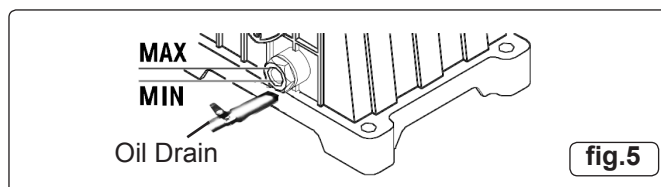

fig.5
- 3.7 Before using the compressor, check the oil level by observing the sight glass as shown in fig.5. If the oil is not up to the max mark it should be topped up with synthetic oil suitable for temperatures ranging from -5°C to 45°C (viscosity 5W50). We do not recommend using mineral oil in these compressors. **DO NOT** overfill.